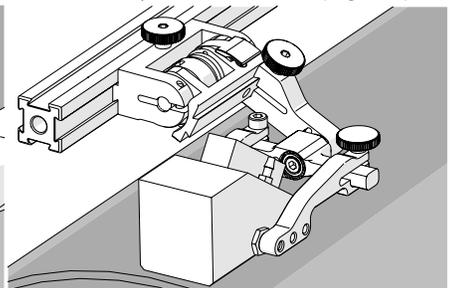

Fig. 158 - Spring loaded scan position
4. Gently lower probe holder and wedge to the scanning surface (Fig. 158).